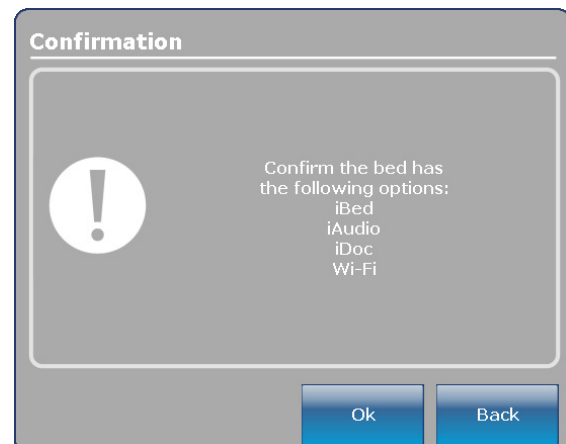

Figure 35: Bed Options Confirmation Screen
3. After pressing **Continue** in step 2, a confirmation screen as shown in Figure 35 will be displayed verifying the options you selected.